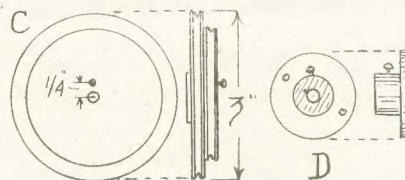

Fig. 3—Details of driving wheel and pulleys
The driving wheel, Fig. 3 (C) consists of a pair of fretwood discs, glued together, and bored through with a  $\frac{1}{4}$ in. hole. The smaller disc is  $2\frac{1}{2}$ ins. diameter and both should be cut with accuracy. A groove on the edges to hold the belt, can be filed round, using a three-cornered file for the purpose.